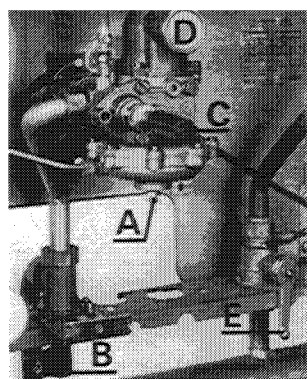

Fig. 16
With the pump fitted, the system should be filled and air locks cleared. The boiler water section can be vented if necessary by unscrewing the drain valve (see A fig. 16). Vent all radiators and check for water soundness.
With the circulating pump fitted, the system should be filled and air locks cleared until the pressure gauge registers 1.5 bar (21.5 p.s.i.). (The boiler water section can be vented if necessary by unscrewing the drain valve, see A fig. 16). Vent all radiators and check for water soundness.
- Open gas service tap by turning to $\blacklozenge$ (see B fig. 16).
- Press in pilot valve knob and light pilot using the ignition button, continue to hold in the pilot valve knob for 30 seconds and release (n.b. the pilot should remain alight, it may be necessary to wait a few moments for gas to reach the pilot) (see C fig. 16).
Remove the pressure test point screw from the left hand end of the burner manifold and connect pressure gauge suitable for measurement in the range 0-20 mbar (0-8 in.w.g). Remove the hexagonal cap from the front of the gas volume governor to expose the adjusting screw (D fig. 16).
The data badge is situated at the bottom right hand side of the chassis (fig. 16).
Close the isolating valves on the boiler by turning in a clockwise direction. Drain the boiler by unscrewing the drain valve (A fig. 16).